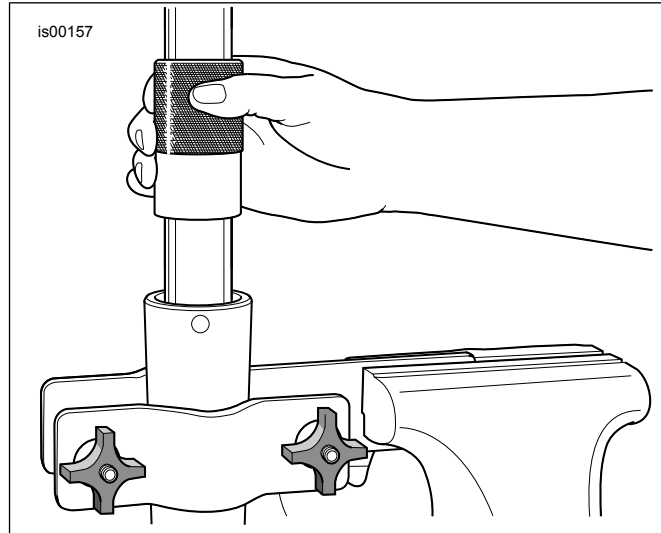

Figure 3. Install Fork Oil Seal
- b. See Figure 3. Using the tool like a slide hammer, drive fork oil seal (with slider spacer and guide bushing) down the fork tube until retaining clip groove is visible in fork slider ID.
- c. Slide the retaining clip (H) down the fork tube until it contacts the fork oil seal. Install retaining clip in the fork slider groove. Do not expand or stretch retaining clip to install on fork tube or clip may become bent or distorted.